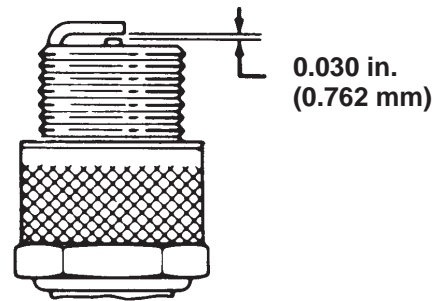

Figure 40
4. Set the air gap between the center and side of the electrodes at 0.030 in. (0.762 mm) (Fig. 40). Install the correctly gapped spark plug and tighten the plug to 14 ft.-lb. (20 N·m).